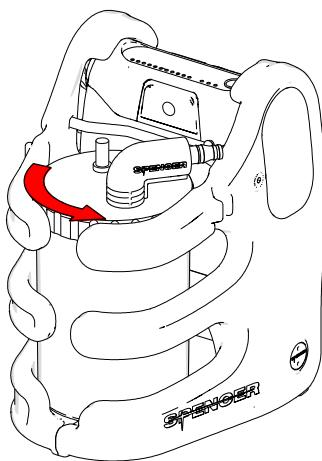

Fig. 9
1. Connect to the canister the filter group (n°5 in paragraph 3.2), put the canister in his support (fig.9 ).